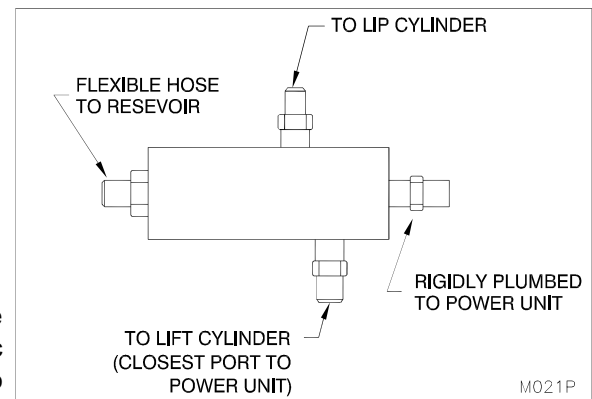

Figure 50: Pentalogic Hydraulic Manifold
4. ☐ Connect the two (2) hydraulic lines to the Pentalogic hydraulic manifold on the power unit (one hydraulic hose from lip cylinder, and one hydraulic hose from lift cylinder.) See, “Figure 50: Pentalogic Hydraulic Manifold” on page 38.